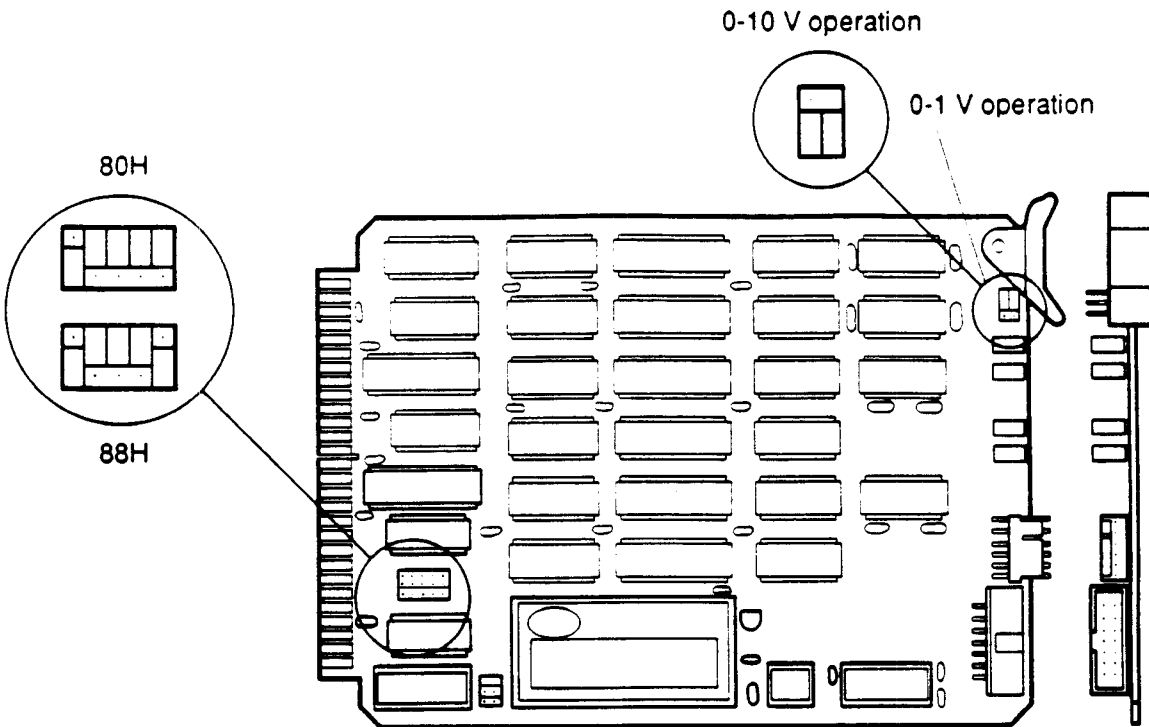

Fig. 5.3. A/D card top and end views.
2. If you have no A/D card, configure the jumper block for address 80 according to Figure 5.3. If you already have one A/D card configure the jumper block for address 88.
3. The analog to digital convertor is capable of accepting two different voltage range inputs, either 0-10 volt, or 0-1 volt. Normally the input should be configured to 0-1 volt. This is done by placing jumpers on the A/D circuit board. Refer to Figure 5.3 and section 4.4.1 (Configuration of DATA Analog Input Port Range) for details.